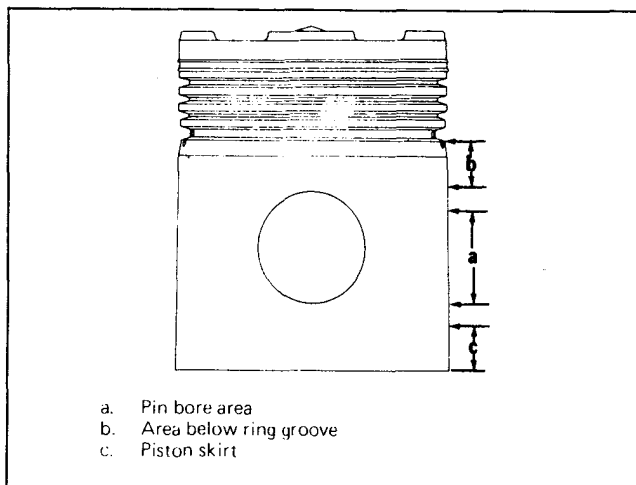

Fig. 1-16, (N20171). Piston check points
3. Measure piston skirt diameter with micrometer at right angle to piston pin bore (A, Fig. 1-16 for barrel-ground pistons); measure straight or tapered ground pistons at Point B, 1 inch [25.4 mm] below ring groove and C, 1 inch [25.4